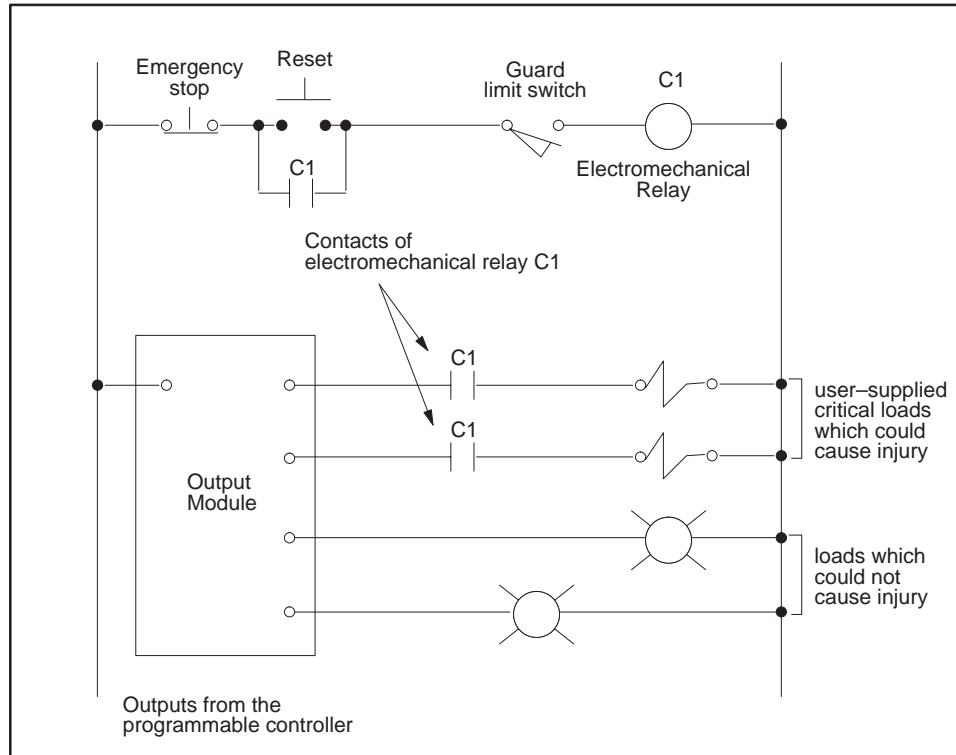

Figure 2-2 Emergency Stop Switch
- Provide a means for removing power from the output if an emergency condition occurs with the machine during operation. Do this by disconnecting output power with a non-semiconductor switch or hard-wired relay contact, not through the programmable control system. This type of switch is shown in Figure 2-2.